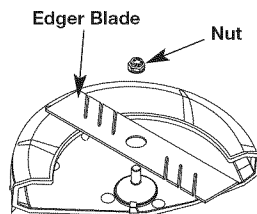

Fig. 17
4. Install the new blade and nut (Fig. 17).
NOTE: Make sure the blade edges are facing the proper direction (Fig. 17). The unit will not function correctly if the edger blade is installed backward.